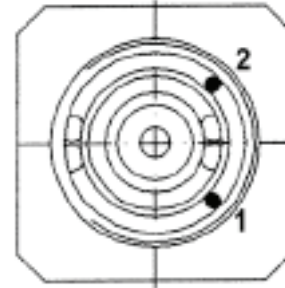

Figure 2: Indexing Pin Locations
(Refer to Figure 2)
1. The air cap positioning depends upon the baffle position. Fit the baffle first on the gun body as shown in Figure 2.